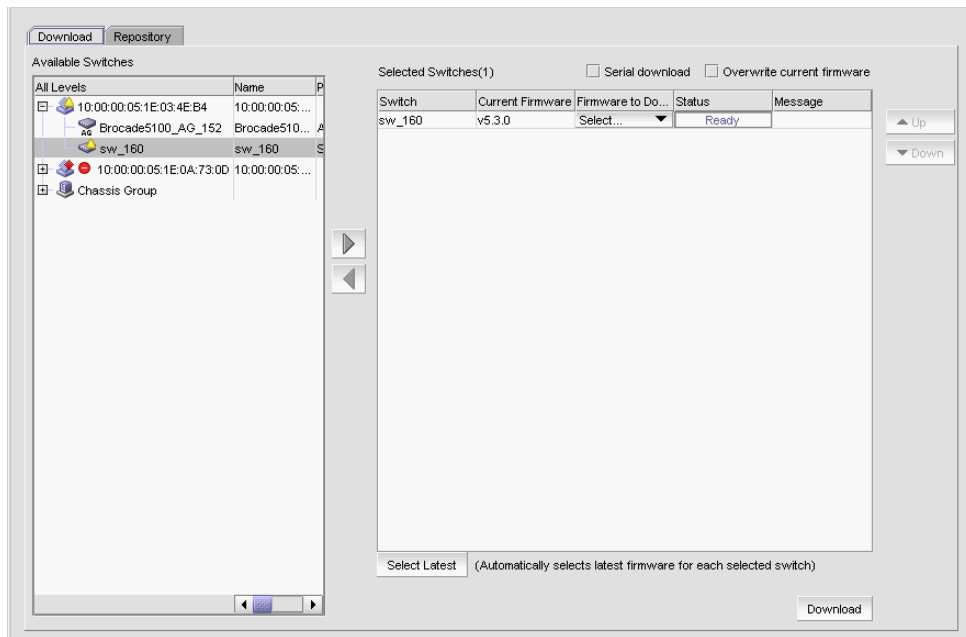

FIGURE 393 Firmware download
10. Select the **Download** tab (Figure 393).